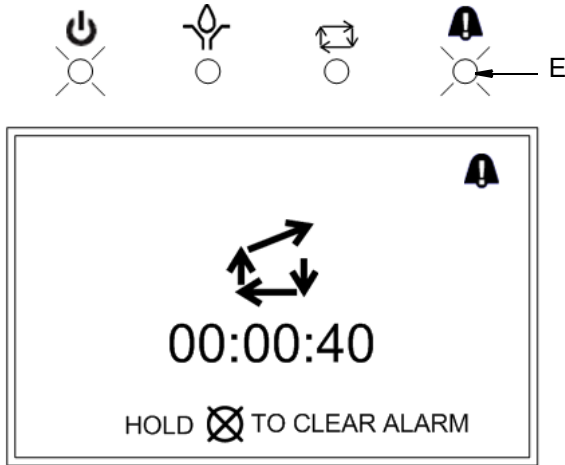

FIG. 72
When an alarm event occurs, Alarm screen as shown in FIG. 72 displays.
- The Alarm LED (E, FIG. 72) will flash during this time.